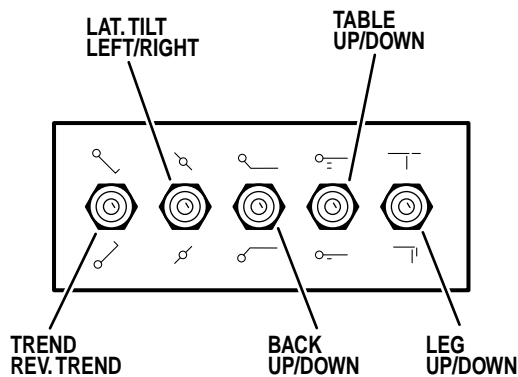

Figure 2-4. Emergency Back-Up Controls
b. In the event of either a power failure or a problem with the hand-held pendant control, the table can be operated using the emergency back-up switches. Simply push the desired emergency switch in the appropriate direction to operate the table functions. See figure 2-4. These switches are spring-loaded so they return to the neutral or center position when released.